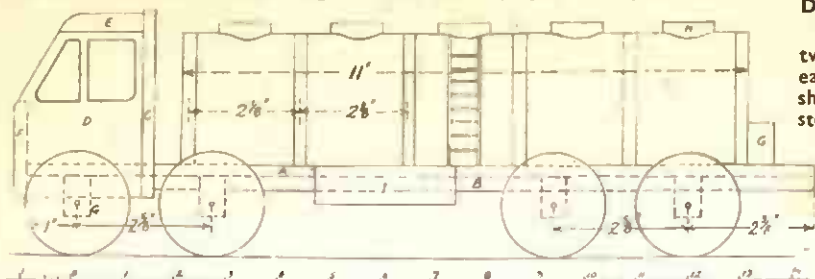

Fig. 2—Side elevation with dimensions of parts
In Fig. 2 is given a scale diagram of the side view with certain dimensions added which will help in the construction. Beneath this diagram is added a scale, and the idea of this is to help in scaling off some of the parts which may not be exactly clear to the worker. With the aid of a pair of dividers or even a pair of compasses it is quite a simple matter to span the required parts and hold the instrument on the scale.
The front one needs cutting down a little in excess of the others to fit between the sides of the cabin. The rear three axles fit in between the sides (B) and are notched out to fit round them as seen in the cross sectional view, Fig. 5. Get the axles square across the floor by first marking their positions and then add screws to make a good firm fixing through the floor. The proper spacing of the axles is given in Fig. 2.